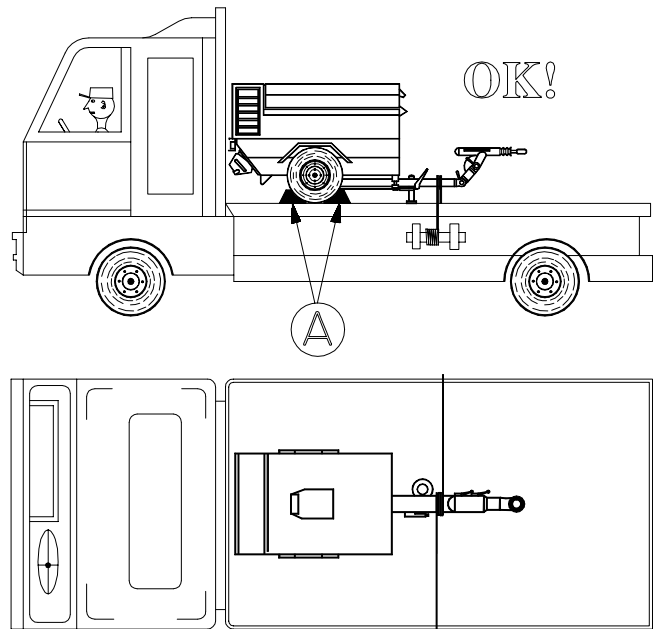

FIG. 6
-- 6.3) TRANSPORT INSTRUCTIONS (Fig. 6) --
2. Position the drawbar as indicated in fig. 6.
4. Position two wedges (part A) per wheel, fixing them to the vehicle flatbed, so that it does not move (fig. 6). Use wedges of adequate dimensions both in terms of height and width.